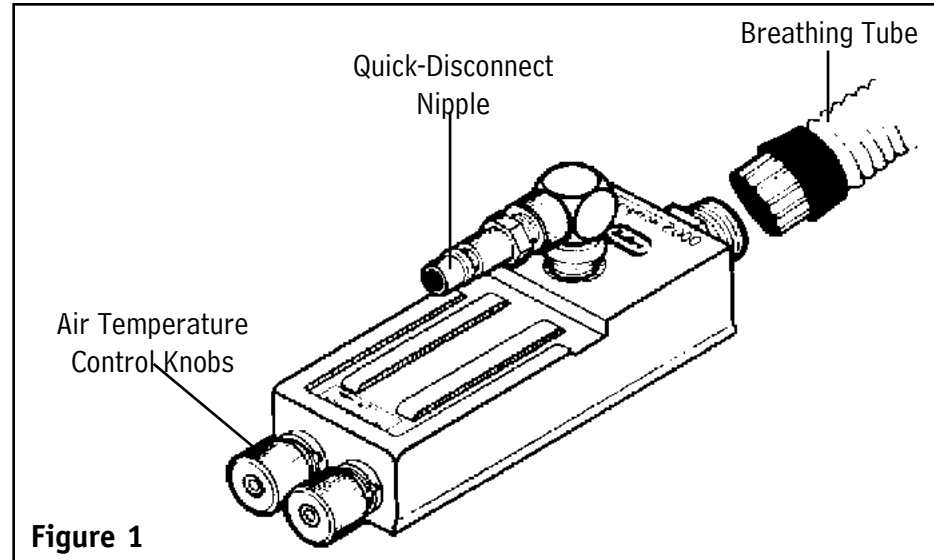

Figure 1
6. To obtain cooler air, turn either or both of the air temperature control knobs clockwise (Figure 1).